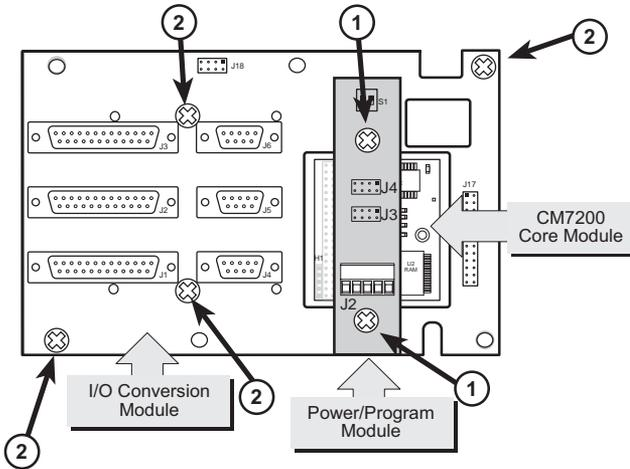

Figure 4-3. Attachment of Power/Program Module and I/O Conversion Module
1. Remove the two 3/8" screws holding the power/program module to the I/O conversion module. These screws are labeled **1** in Figure 4-3.
- Remove the four 4 x 3/4" screws holding the I/O conversion module to the PK2600 assembly. These screws are labeled **2** in Figure 4-3.